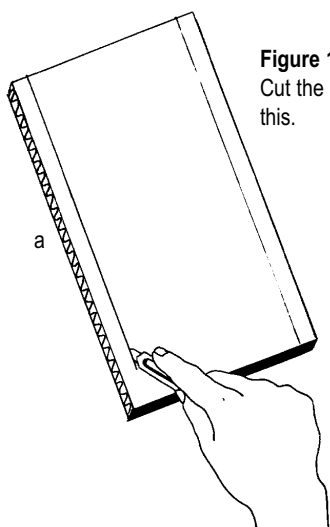

**Figure 1.1**
1. From large pieces of cardboard, cut rectangles 16 inches x 8 inches. This should be done so that the longer side is cutting across the cardboard's corrugation (Figure 1.1).